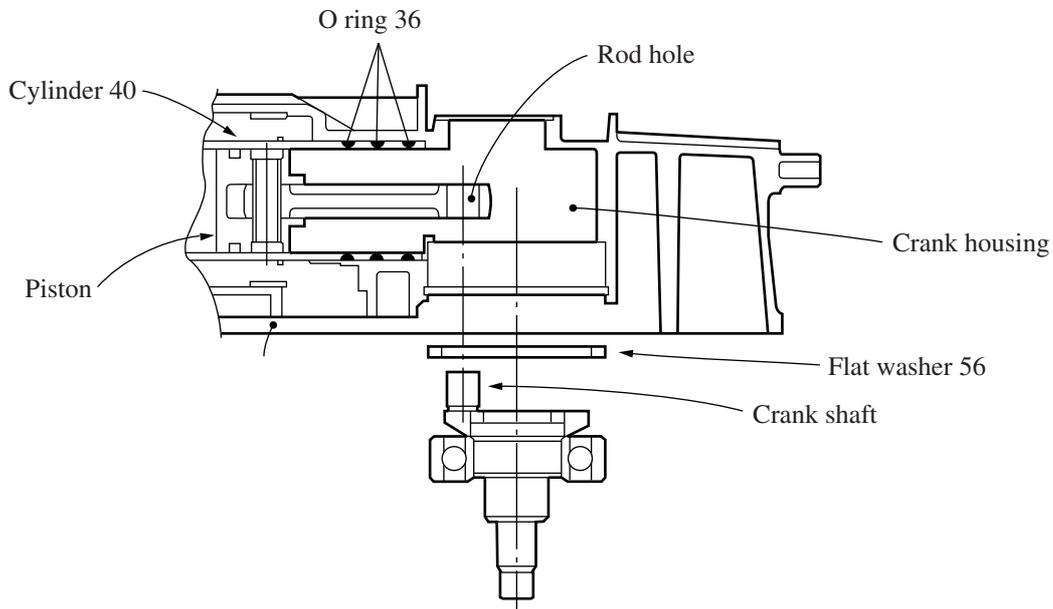

Figure 18
**Assembling Piston, Rod and Crank shaft(see the figure 18.)**